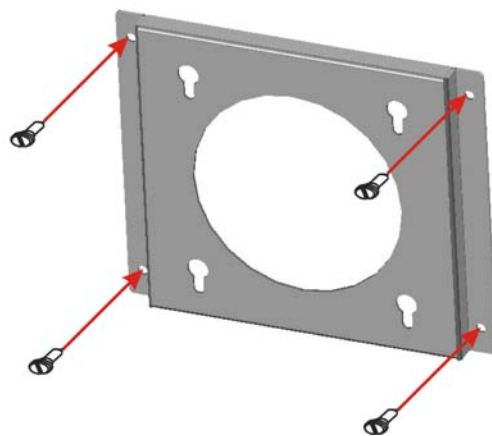

Figure 3-26: Wall-mounting Bracket
- Step 10:** Secure the mounting-bracket to the wall by inserting the retention screws into the four pilot holes and tightening them (**Figure 3-26**).